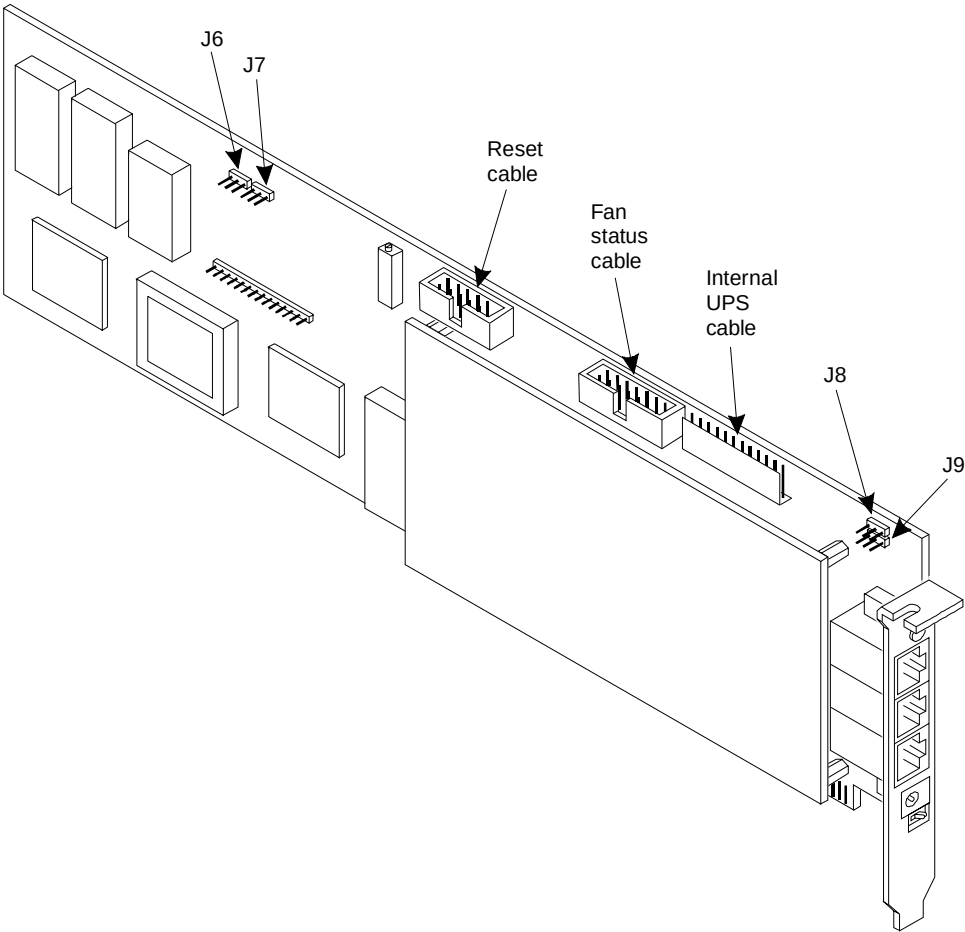

Figure 5-93. Remote Maintenance Circuit Card
- VDC 600U (Figure 5-93)
The remote maintenance circuit card provides remote diagnostics of basic MAP/100 components (Figure 5-93). There is one remote maintenance circuit card installed on the system.